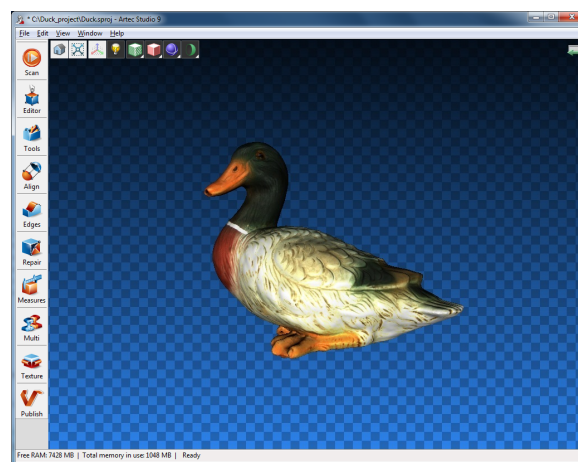

Figure 7.7: Example of altered background
- "Background" settings group (see figure 7.7)